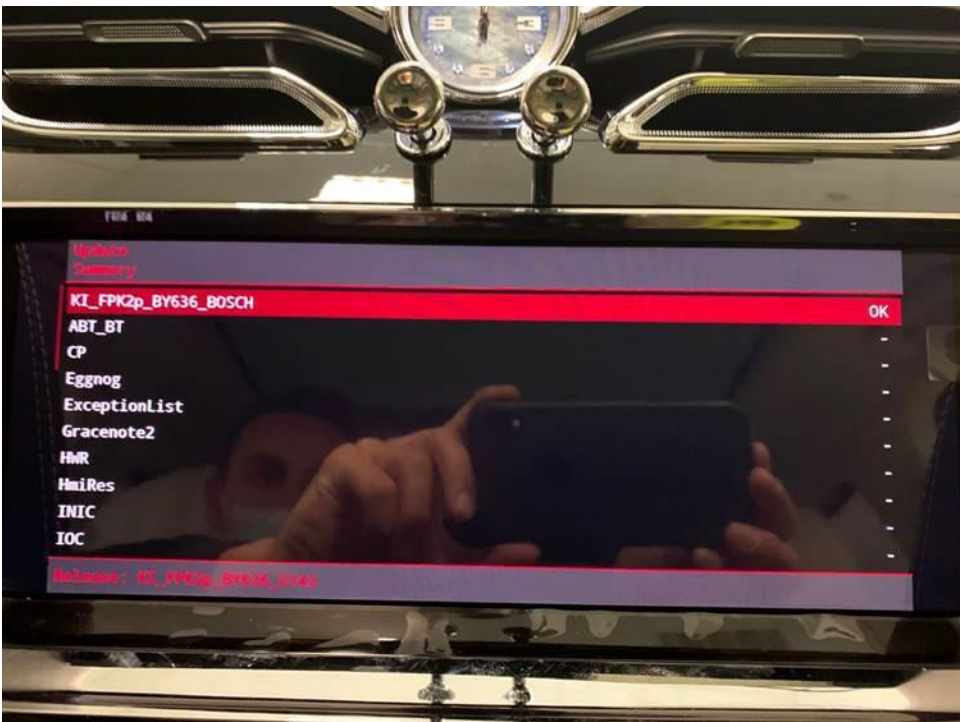
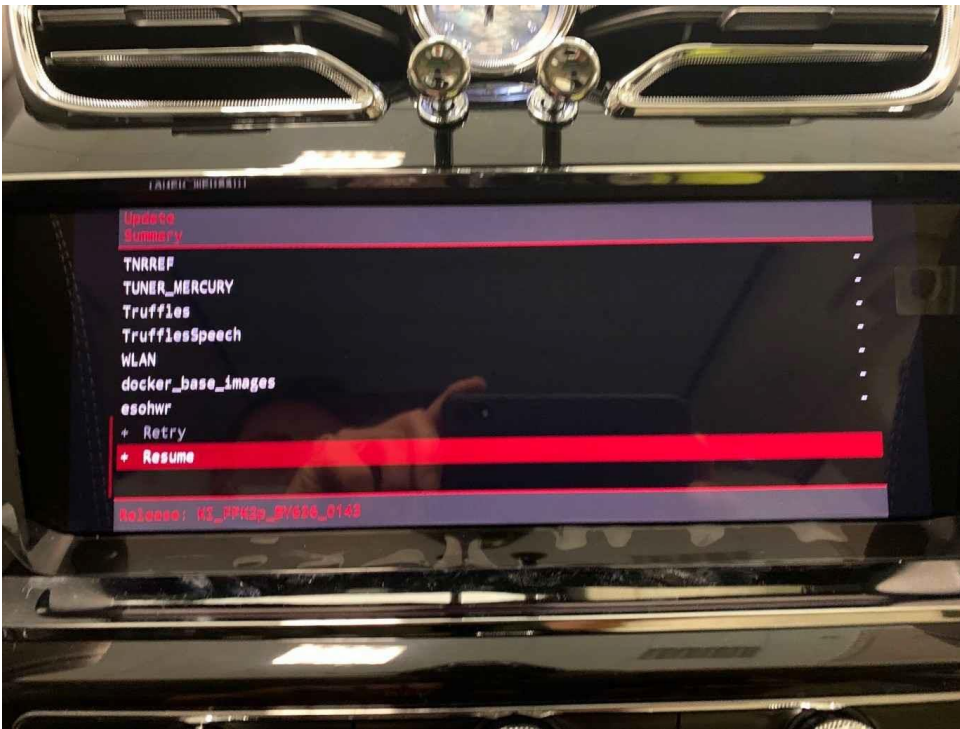

Figure 10
Figure 11
9. Once the update is complete a summary screen will be displayed. (Figure 10) Scroll down and press 'Resume' (Figure 11)